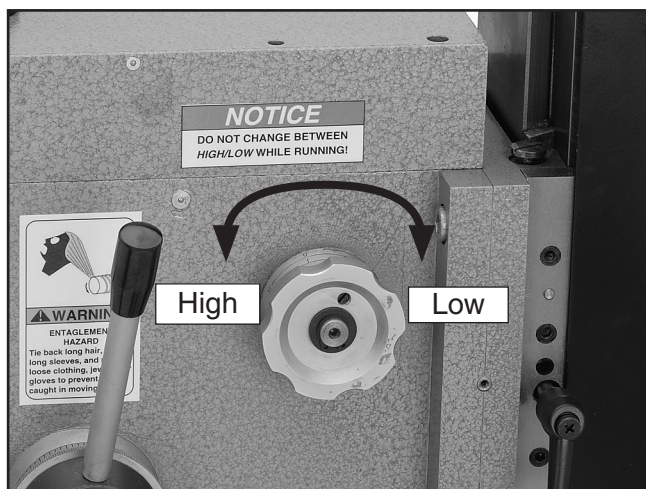

Figure 7. HIGH/LOW gear change knob.
3. With the spindle at a complete stop, shift the HIGH/LOW gear change knob into the low range (see **Figure 7**). Set the forward/reverse switch to FWD.